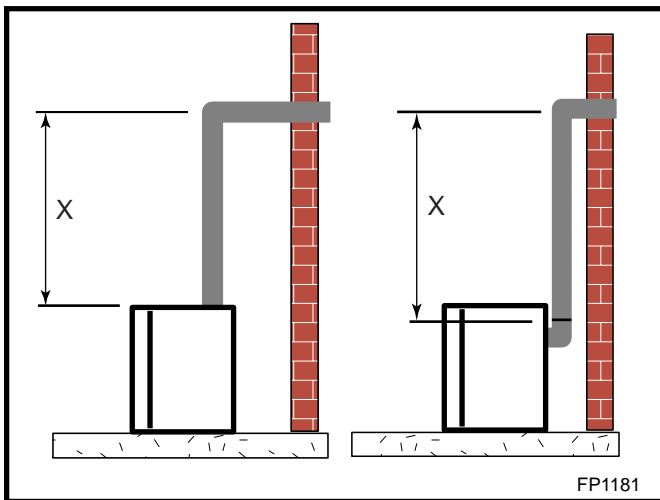

Fig. 29 Vertical height requirements.
Place fireplace into position. Measure the vertical height (X) required from the base of the flue collars to the center of the wall opening. (Fig. 29)